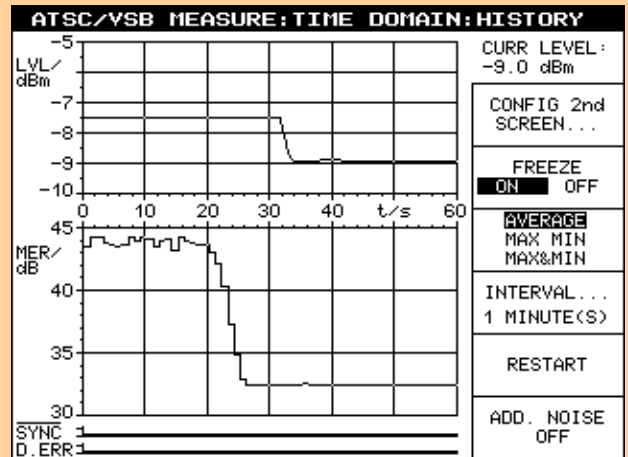

Fig. 11: Monitoring/Alarm register
- ◆ Alarm monitoring window (Fig. 11) and alarm statistics (Fig. 12)